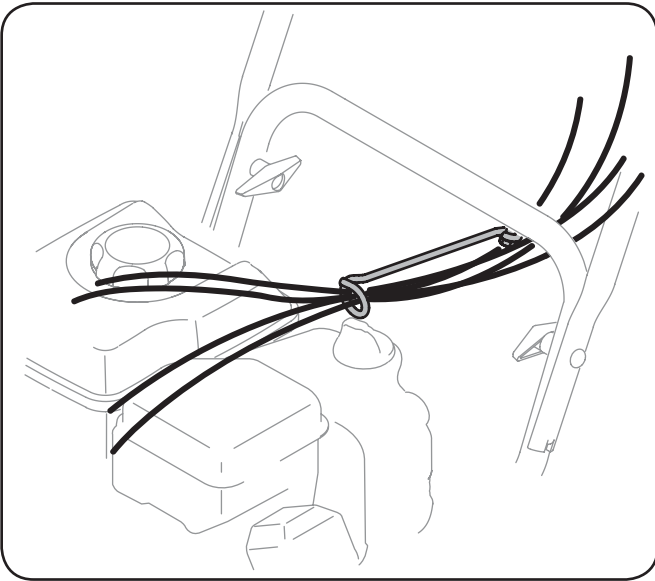

Figure 3-5
4. Check that all cables are properly routed through the cable guide on top of the engine. See Fig. 3-5.